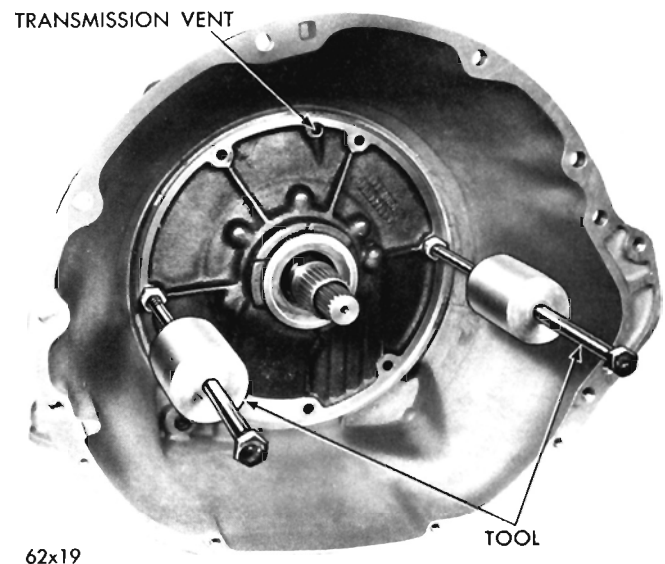

Fig. 69—Removing Front Oil Pump and Reaction Shaft Support Assembly
(1) Remove the front oil pump housing retaining bolts.
(2) Tighten the front band adjusting screw until the band is tight on the front clutch retainer. This prevents the clutch retainer from coming out with the pump which might cause unnecessary damage to the clutches.
(3) Attach Tool C-3752 to the pump housing flange, as shown in Figure 69, install the tool in the threaded holes in the pump flange.
(4) Bump outward evenly on the two "knocker weights" to withdraw the oil pump and reaction shaft support assembly from the case.